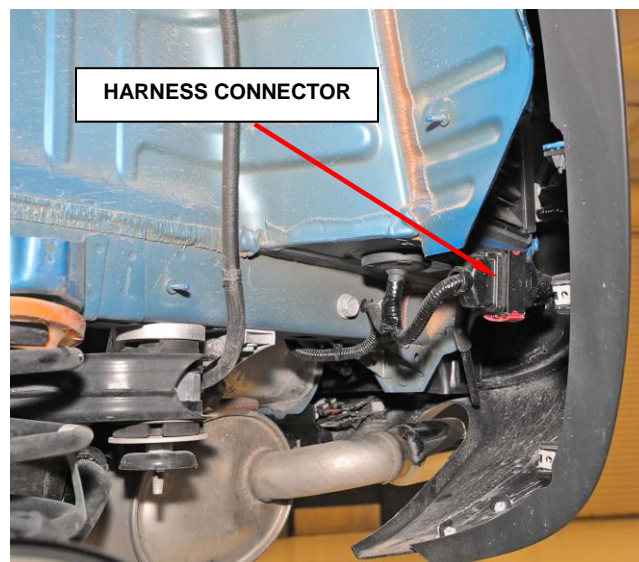

Figure 11 – Fascia Wire Harness Connector
6. Disconnect the fascia wire harness connector (Figure 11).
25. Connect the fascia wire harness connector (Figure 11).